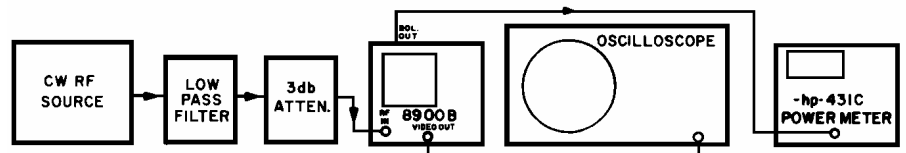

Figure 5-2. Calibration Check
1. Connect equipment as shown in Figure 5-2.
<ol style="list-style-type: none"> <li>1. Connect equipment as shown in Figure 5-2.</li> <li>2. Set             <ul style="list-style-type: none"> <li>8900B</li> <li>Function Switch: MEAS</li> <li>COARSE and FINE controls: Adjust for 20 mw reading on Peak RF Meter</li> <li>Pulse Generator</li> <li>Pulse Amplitude: 100 volts, negative-going</li> <li>Repetition Rate: 10 kHz</li> <li>Pulse Width: 10 μsec</li> <li>Trigger: Internal</li> <li>RF Source</li> <li>Output Frequency: 900 MHz</li> <li>Oscilloscope</li> <li>Vertical Sensitivity: 50 mv/cm</li> </ul> </li> <li>3. Adjust level of RF source to 20 mw as determined by 8900B measurement.</li> <li>4. Change 8900B Function Switch to MON/CAL position.</li> <li>5. Change oscilloscope connection from 8900B VIDEO OUT to MON OUT connector and measure voltage level. The detected pulse level should be greater than 200 mv P-P for 20 mw input.</li> </ol>